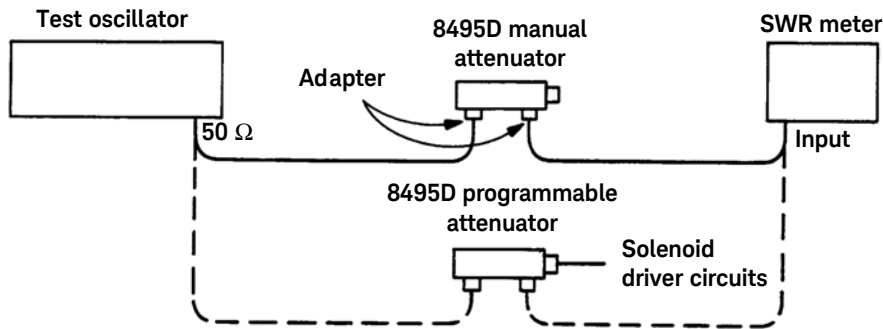

Figure 3-1 Operator's check setup
- 1 Connect equipment as shown in Figure 3-1 with the attenuator set to 0 dB.